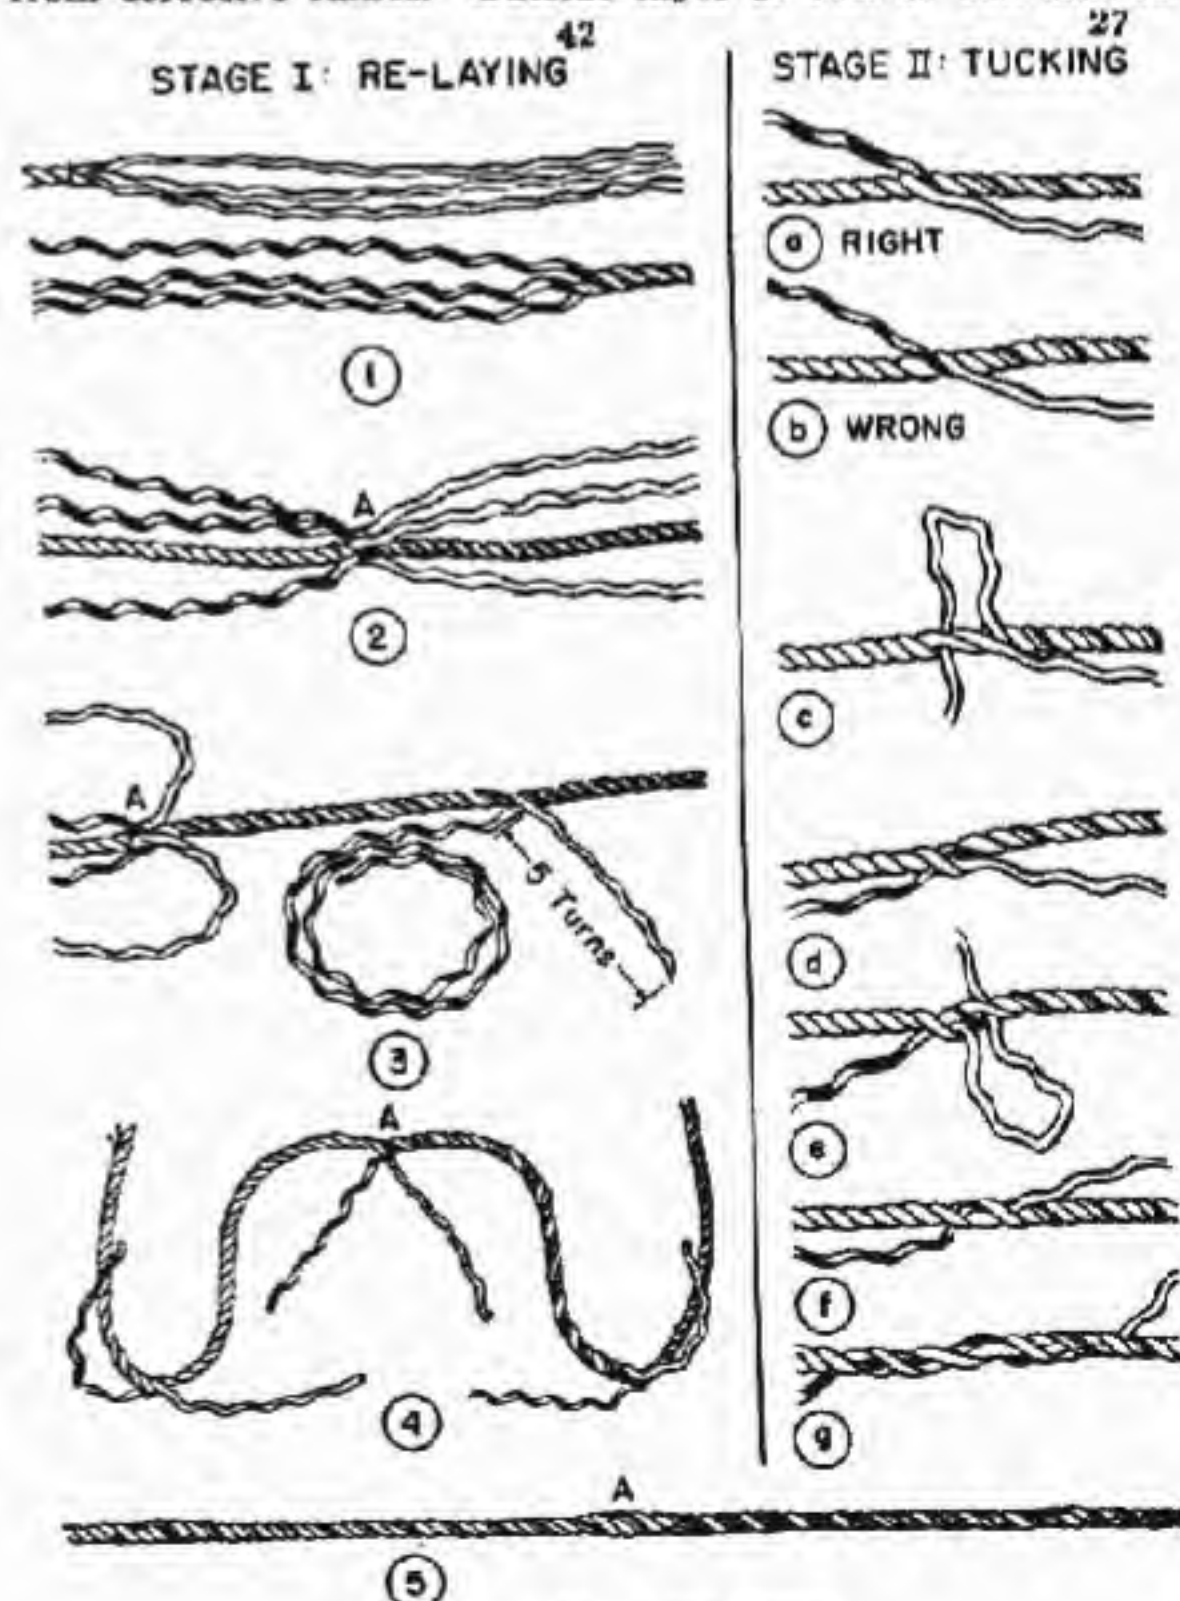

FIGURE 50.—Long splice.
a. Stage 1: Unlaying.—To make a long splice in a three-strand rope (see fig. 50) —
(1) Unlay 15 turns from the ends and tie strings about one
(2) Bring the two parts together in the same manner as for the short splice.
(3) Beginning at the point where the two parts are placed together, unlay one of the strands to the right, and lay carefully in its place all but the last five turns of the corresponding strand from the left. This latter operation should follow closely the unlaying of the strand to the right. There are still two pairs of strands left at point A where the ends were placed together.
(4) Remove the piece of string and run one of these pairs to the left in the same manner as the first pair to the right; cut off the long ends of the strands (including the two remaining at A) about five turns from the main rope.
b. Stage 2: Tucking.—The next part of the splicing consists in tucking the ends of the three pairs of strands. All are tucked in the same manner, as follows: being sure that the ends of the strands pass each other as illustrated in (a) (fig. 50) and not as in (b). As shown in (c), bring the strand from the right up over the nearest strand from the